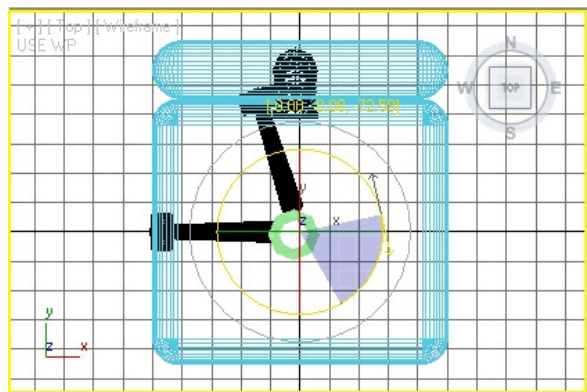
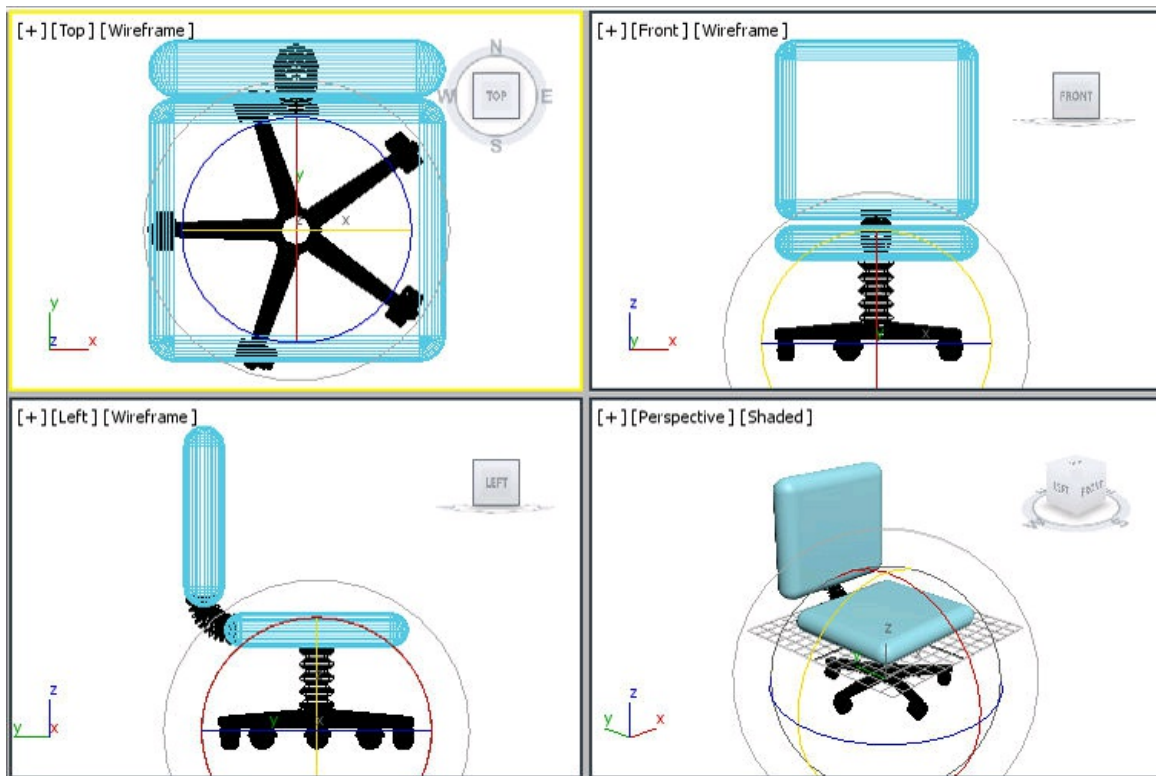

Figure 3-45 The f_leg01 group rotated about -72 degrees with respect to the working pivot point
Figure 3-46 The *f_leg002*, *f_leg003*, *f_leg004*, and *f_leg005* groups in viewports
22. Move the cursor over the Z-axis that is blue in color; it is highlighted in yellow color. Now, press and hold the SHIFT key as well as the left mouse button and drag the cursor until the value in the **Z** spinner in the coordinate display becomes about -72, refer to Figure 3-45. Release the left mouse button; the **Clone Options** dialog box is displayed. Make sure that the **Copy** radio button is selected. Set 4 in the **Number of Copies** spinner. Choose the **OK** button; *f_leg002*, *f_leg003*, *f_leg004*, and *f_leg005* are displayed in the viewports, as shown in Figure 3-46.